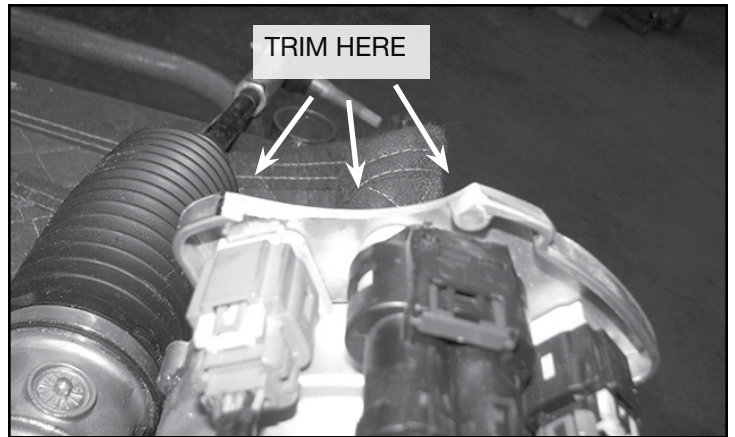

FIGURE 9 - STEP 11
11. Due to vehicle variances, the steering will need to be removed and trimmed on the driver side where the wiring harnesses are located. **SEE FIGURE 9**